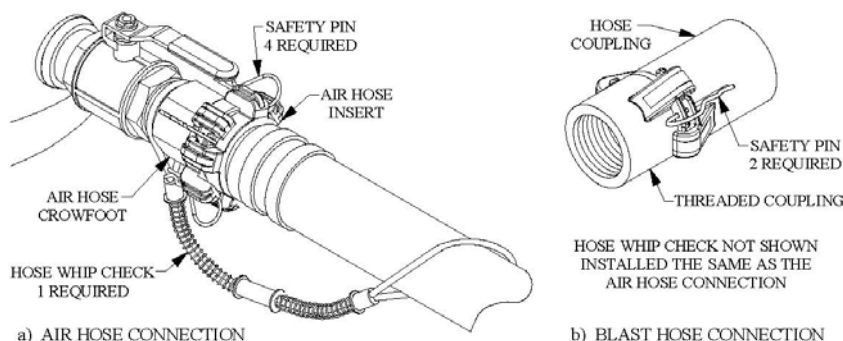

Figure 8.2 – Hose Connection Disconnect Protection
- 8.7. **Blast/Air Hose Couplings:** All air hose, blast hose, and threaded couplings have pin holes that align when connected. To prevent accidental hose disconnections safety pins must be installed through these holes. Each hose connection must also include a hose whip check that will hold the hose if there is an accidental disconnection. Connect one loop to each side of the connection and stretch out as shown in Figure 8.2 below. Check hose connections daily and replace missing or damaged pins and whip checks.